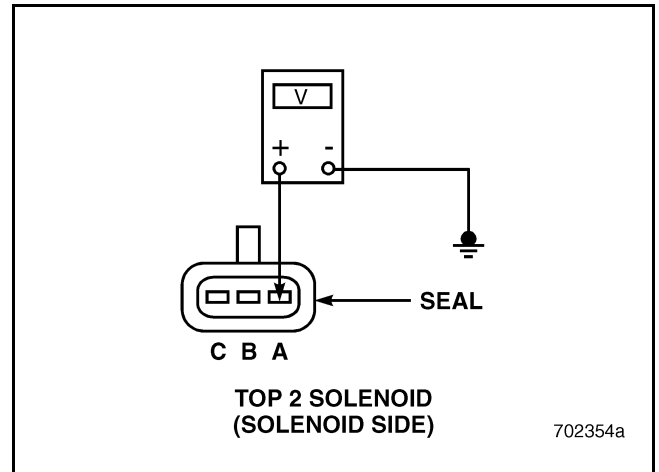

Figure 473
4. Measure the voltage between pin A of the solenoid side of the Top 2 solenoid valve connector and a good ground (see Figure 473).